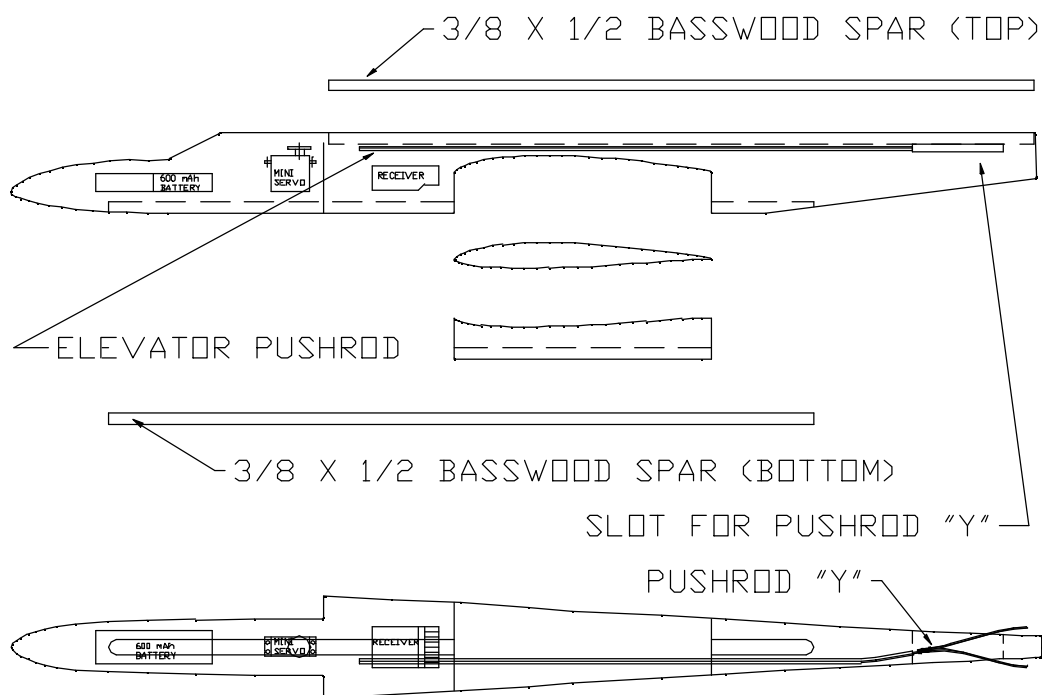

Figure 8
- ❑ Cut out the location of the elevator push rods using a utility knife or razor saw. Use the elevator control horn to set the height of the control rod at the tail section. (See Figure 8)